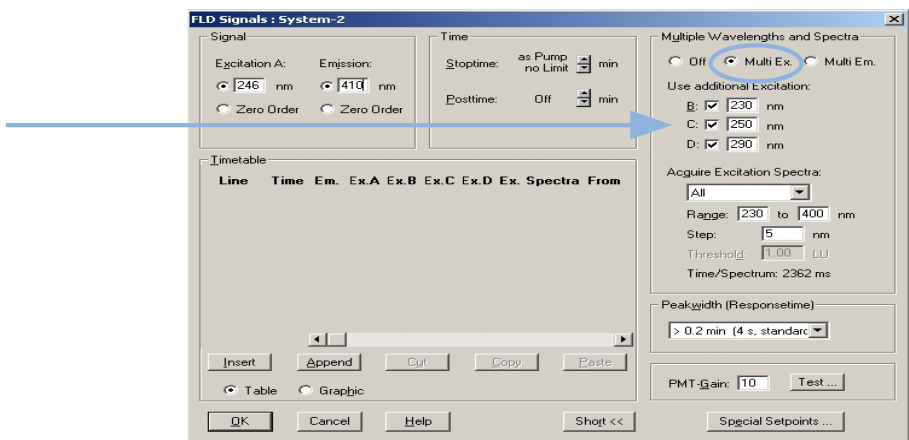

Figure 23 FLD Parameters
- 2 Set the FLD setpoints according to Figure 23 on page 63.